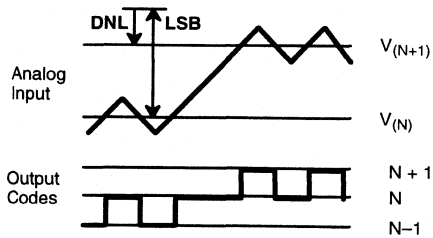

Figure 10. DNL Measurement
- 1 Tester measures code transitions by dithering the voltage of the analog input (V_{IN}). The difference between the measured and the ideal code width ($V_{REF}/256$) is the DNL error (Figure 10). The INL error is the maximum distance (in LSBs) from the best fit line to any transition voltage (Figure 11). Accuracy is a function of the sampling rate (FS).